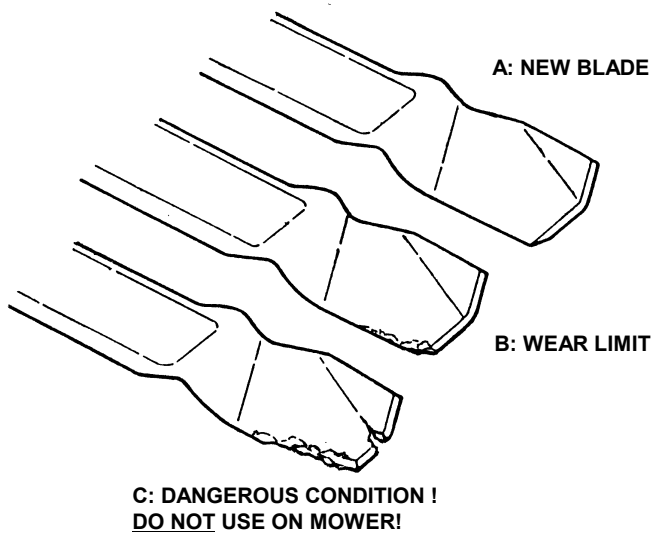

FIGURE 4.1
2. Inspect blade frequently for signs of excessive wear or damage. See Figure 4.1.